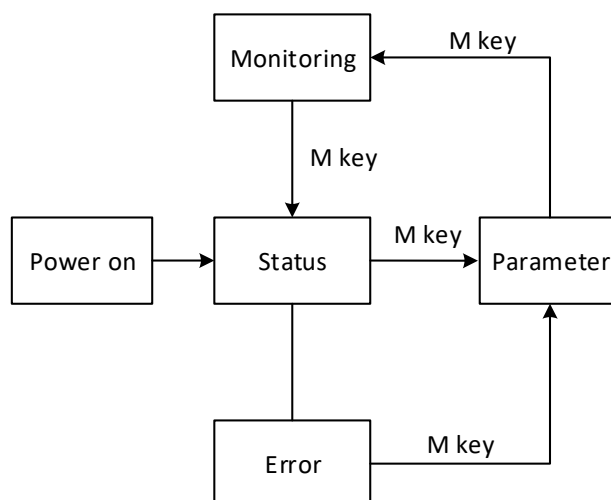

Figure 5-2 Switch between display types on the panel
- ① The power is turned on, and the panel display of the servo drive enters “Status Display Mode”.
- ② After an operation failure occurs, the panel immediately switches to the bit failure display mode. At this time, all the nixie tubes flash synchronously. Press the "mode" key to switch to the parameter display mode.
- ③ Press the "Mode" key to switch between different display modes, and the switching conditions are shown in Figure 5-2.